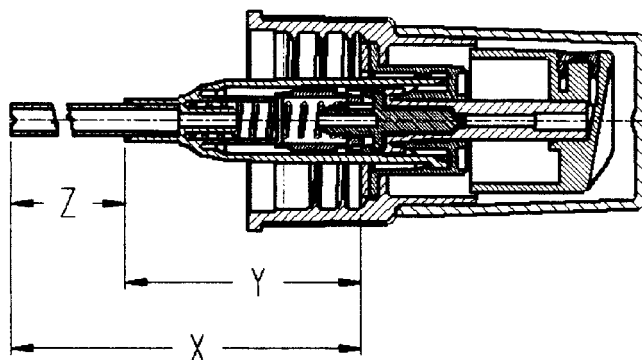

FIG. 2 Overall Dip Tube Length “X” Versus Exposed Dip Tube Length “Z”
4.10 To specify the exposed dip tube length, measure the length of the exposed body as per dimension “Y” of Fig. 2 and subtract from the overall length as specified in 4.6.